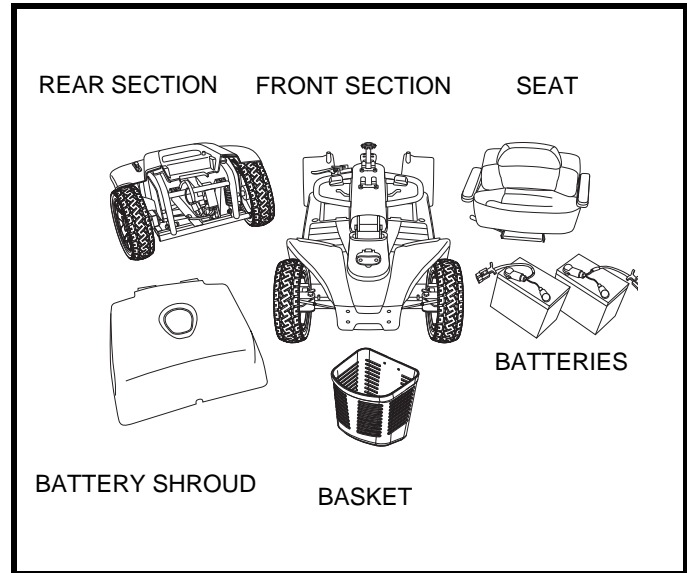

Figure 21. Scooter Components
**See figure 21.** No tools are required to disassemble or assemble your scooter, but keep in mind that the disassembled sections of the scooter take up more floor space than the assembled unit. Always disassemble or assemble your scooter on a level, dry surface with sufficient room for you to work and move around your scooter—about 1,5 metres (5 feet) in all directions. Remember that some scooter components are heavy and you may need assistance when lifting them.